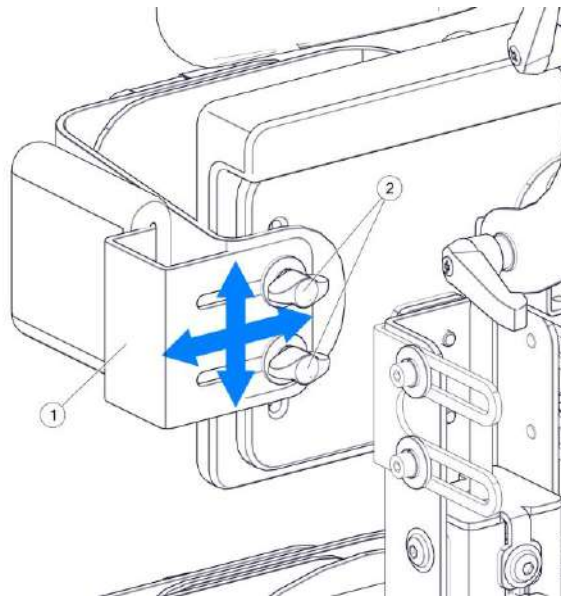

Figure 9
7.5. Adjustment of chest and hip supports – Figure 9